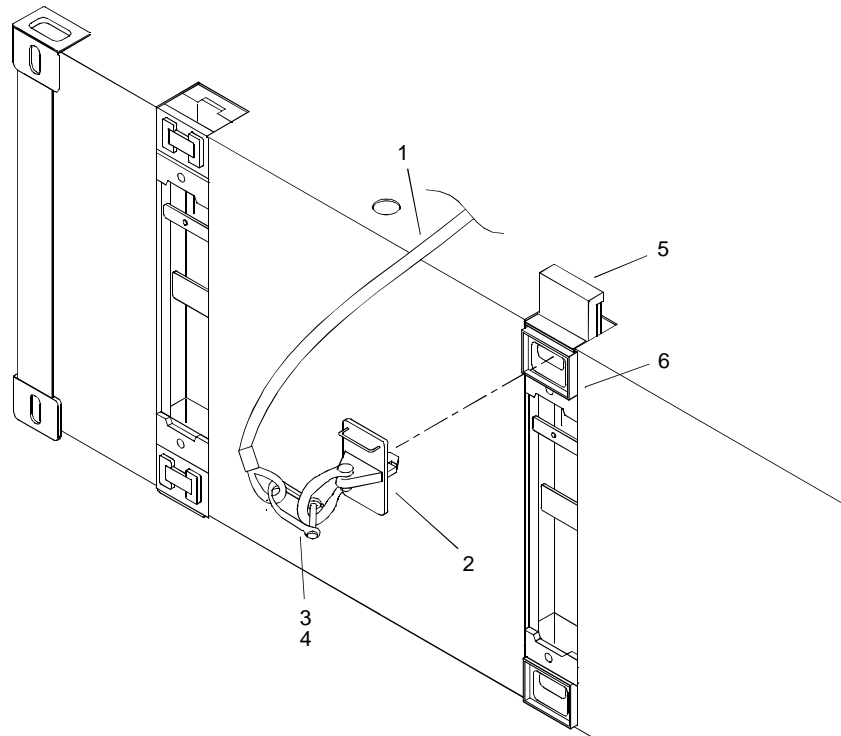

Figure 19. Onshore Mooring Leg Attachment
4. Disconnect mooring cable (figure 19, item 1) from horizontal deadman padeye (figure 19, item 2) by removing shackle (figure 19, item 3) and pin (figure 19, item 4).
5. Using assistant, pull mooring cable (figure 19, item 1) onto FC deck.
6. Using crowbar, raise female guillotine (figure 19, item 5).
7. Remove horizontal deadman padeye (figure 19, item 2) from female guillotine upper fitting (figure 19, item 6).
8. Using sledgehammer, drive down female guillotine (figure 19, item 5).